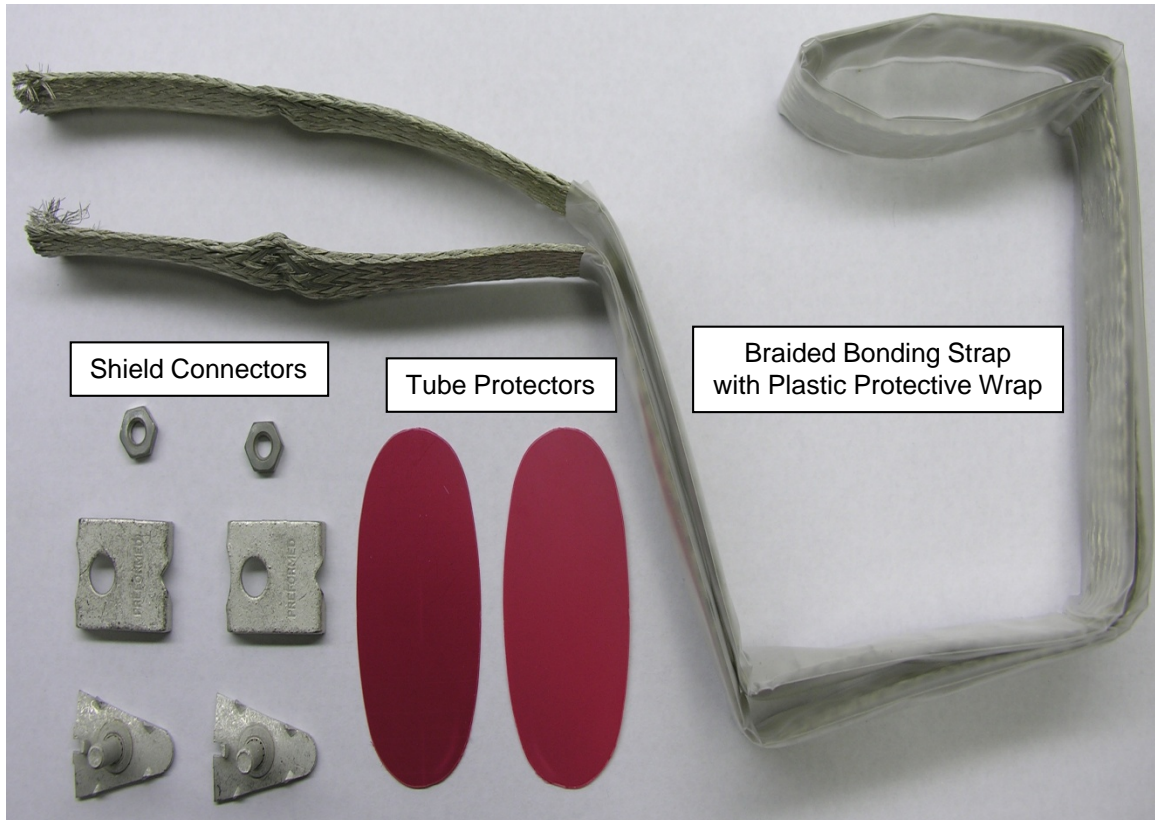

Figure 1
4.1 Grounding and Bonding hardware (DE09SBK or DE12SPK) . **See Fig. 1.**